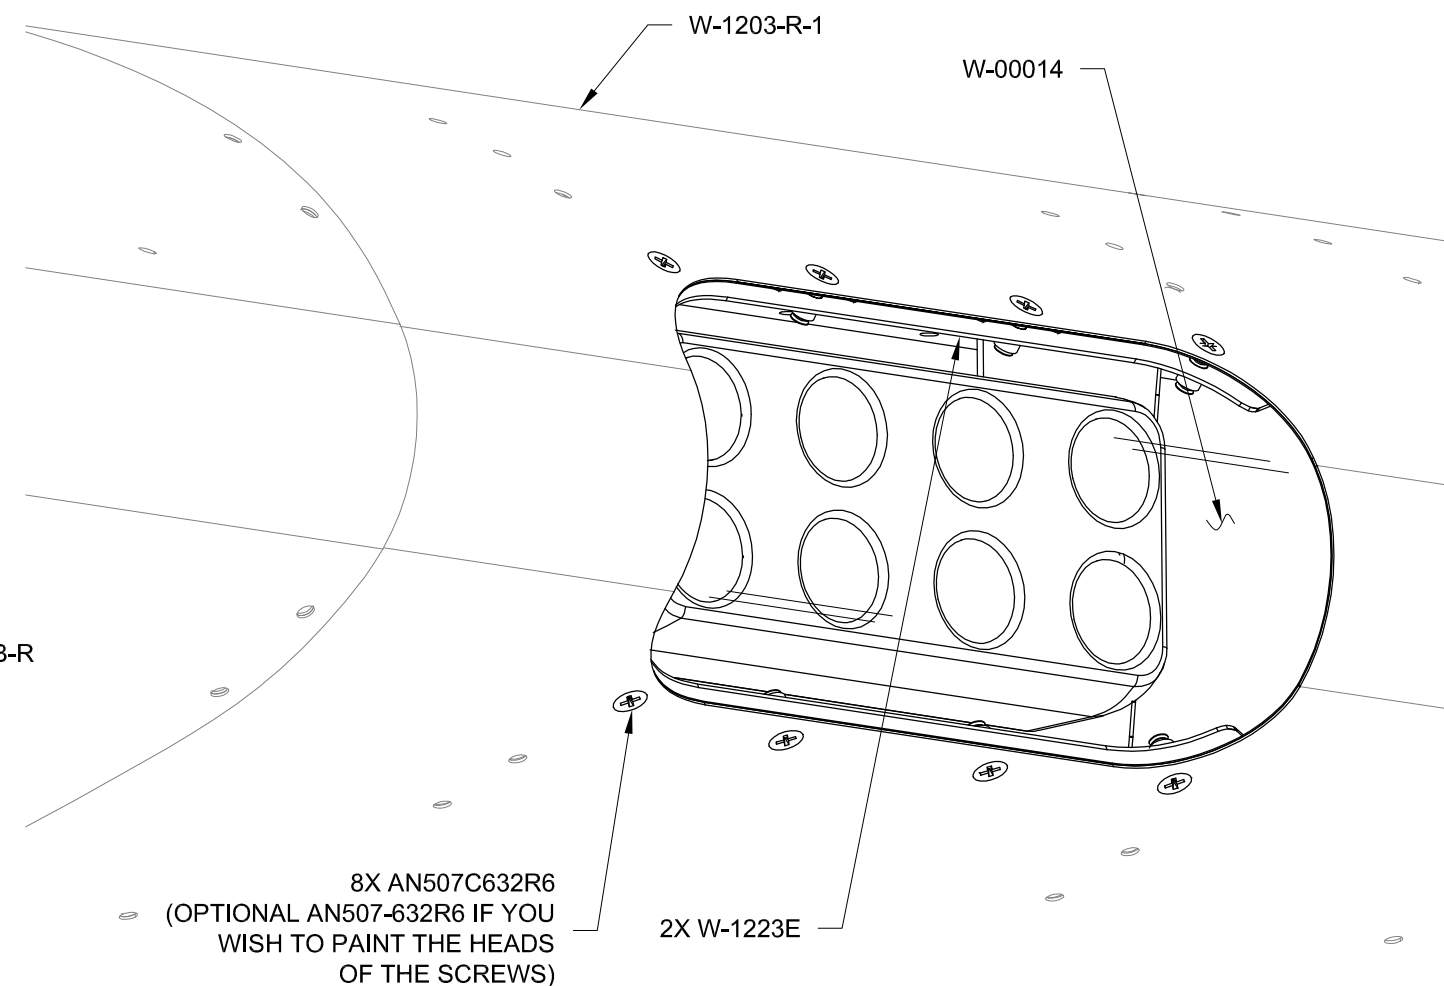

FIGURE 2: INSTALLING THE LENS
Step 8: Slip the W-00014 through the landing light cutout in the W-1203-R-1 and screw it in place as shown in Figure 2.